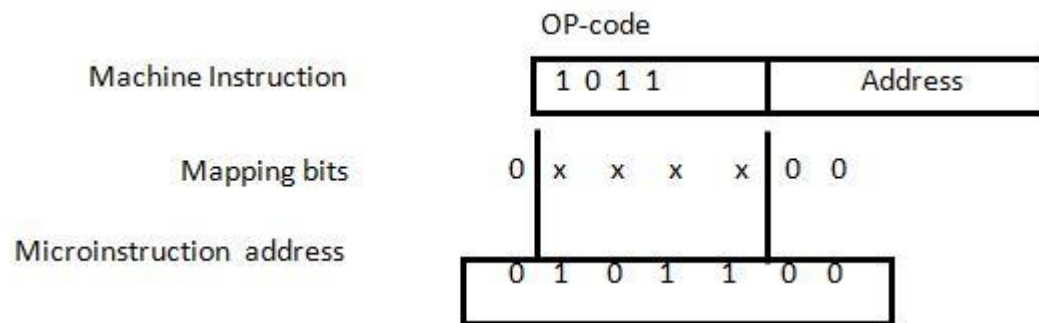

Figure 4.3: Mapping from instruction code to microinstruction address
- For example, a computer with a simple instruction format as shown in figure 4.3 has an operation code of four bits which can specify up to 16 distinct instructions.
- One simple mapping process that converts the 4-bit operation code to a 7-bit address for control memory is shown in figure 4.3.